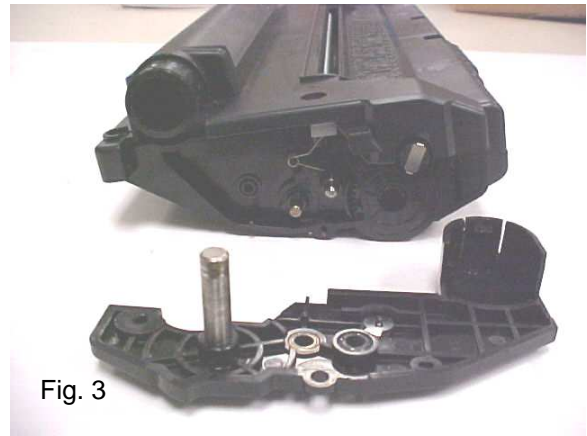

Fig. 3
3. Work the flat-head screwdriver around the end cap to pry it off. Contact side end cap configuration (Fig 3).